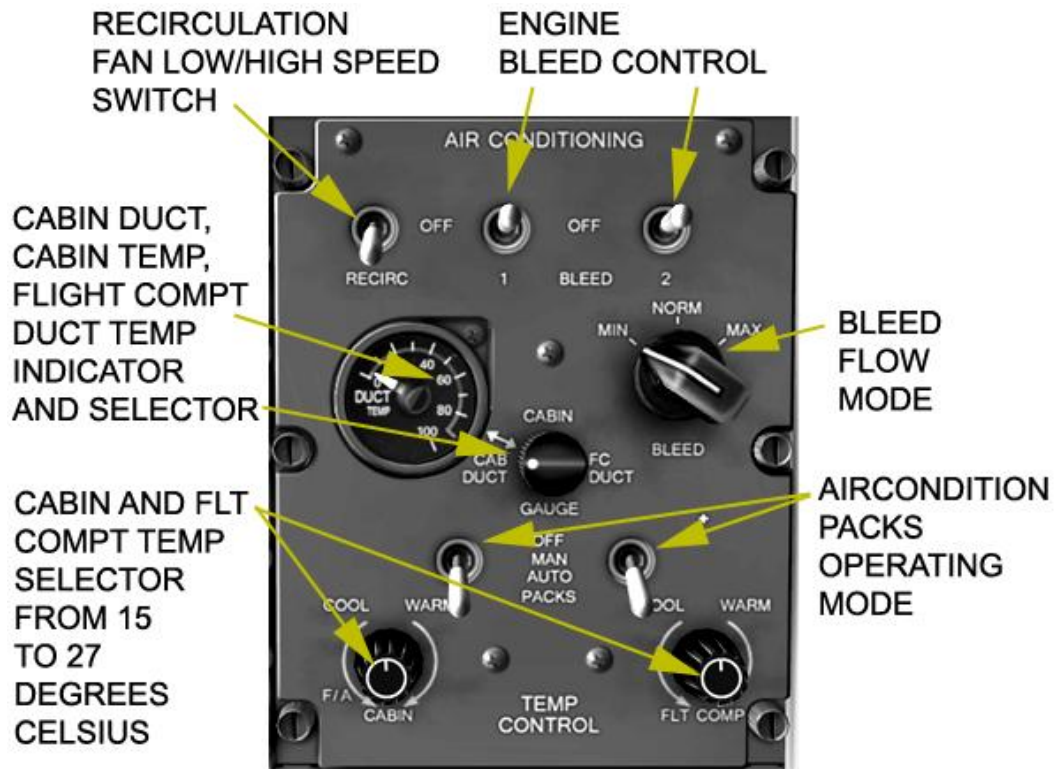

Figure 4.3.1. Air Condition and Bleed Air Controls
The bleed air subsystem is responsible for supplying the unconditioned bleed air to pressurize the aircraft interior, provide the aircondition and deice the airframe. The Bleed Air is supplied by each engine via Low Pressure (LP) and High pressure ports (HP). When the bleed switches are selected ON, the LP or HP will be operated automatically, based on the available airflow pressure (see Figure 4.3.1).
The air conditioning system conditions the bleed air to the proper temperature and humidity and delivers it to the air distribution system for environmental control of the cabin and flight deck. The system controls are shown at the Figure 4.3.1.